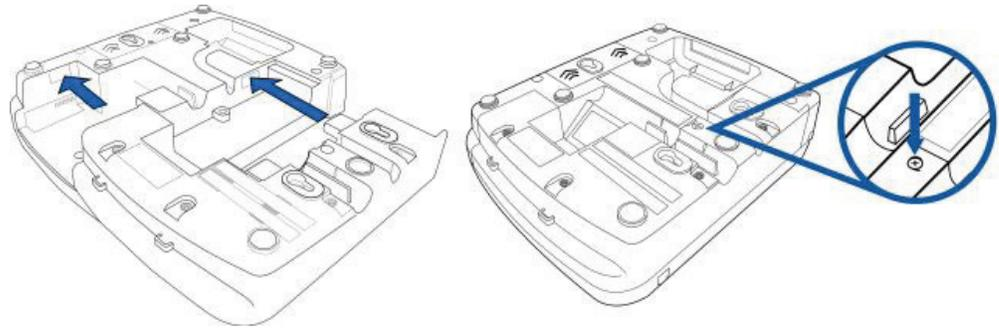

Figure 6 Installing the Module
- 2 Slide the module into place (Figure 6) and secure the retaining screw.